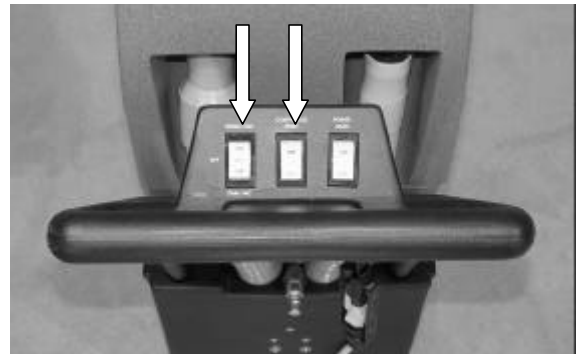

Fig. 5
1. Activate vacuum switch by placing it either in the "Single Vac" or "Dual Vac" position and activate the pump by turning on the "Continuous Spray" switch (Figure 5)